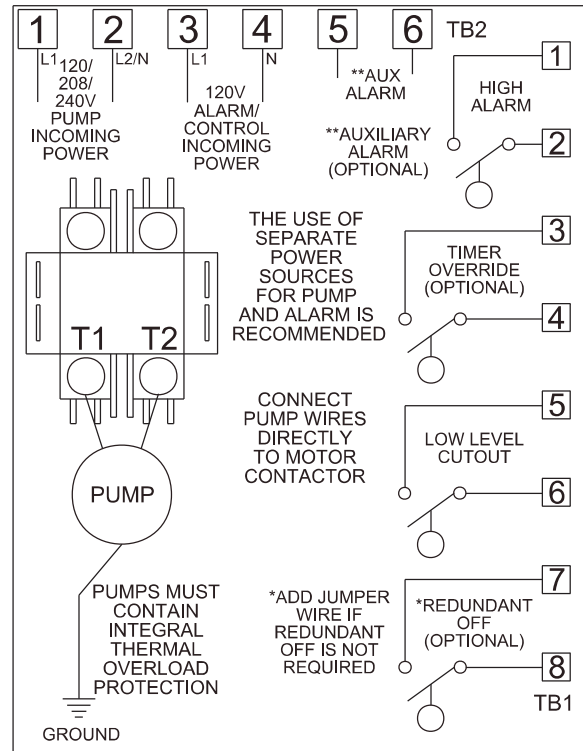

FIGURE 6 -
12. Connect pump wires and float switch cables to the proper terminals as seen in **Figures 6 & 7**. If the redundant off float is not required, place a jumper wire across TB1-7 and TB1-8.